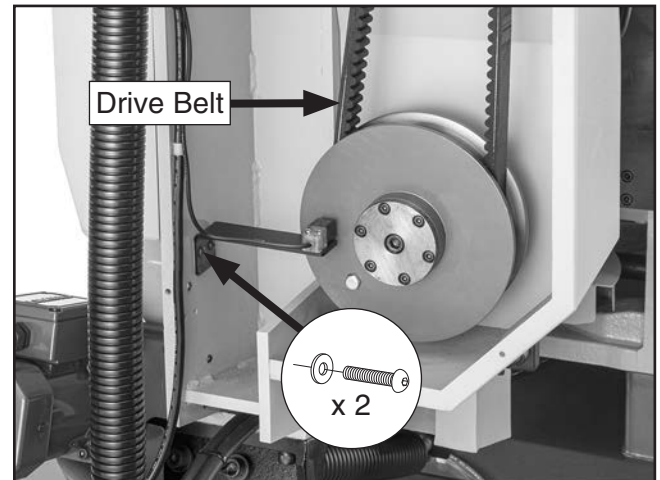

Figure 117. Pulley cover bracket location.
4. Remove (2) button head cap screws and flat washers to remove pulley cover bracket that holds blade speed sensor so you can access drive belt (see **Figure 117**).